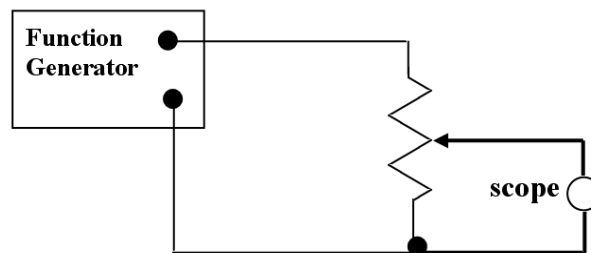

Figure 2: AC level control.
2. *AC level control*: Use a potentiometer to attenuate an AC signal as shown in Fig. 2. This is the essence of an audio volume control. Use two inputs: channel 1 for the input from the function generator and channel two for the attenuated output. Paste a copy of the display with output attenuated by a factor of two into your notebook.